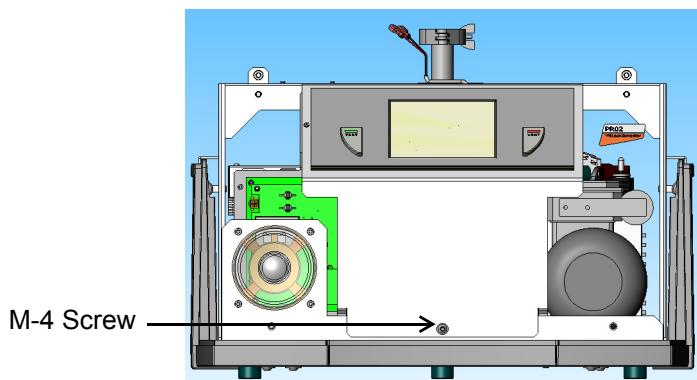

Figure 6: Front Panel Removal
12. Remove M4 screw ("Figure 6: Front Panel Removal") and open front panel to provide required room for installing the Flapper Box Wiring harness.
16. Reinstall the M4 screw (“Figure 6: Front Panel Removal”).